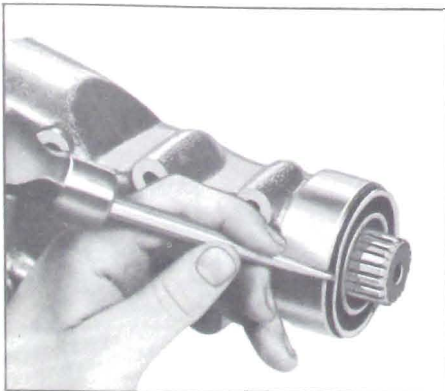

Figure 4-20—Removing Extension Oil Seal
7. Remove case extension oil seal. See (Figure 4-20).